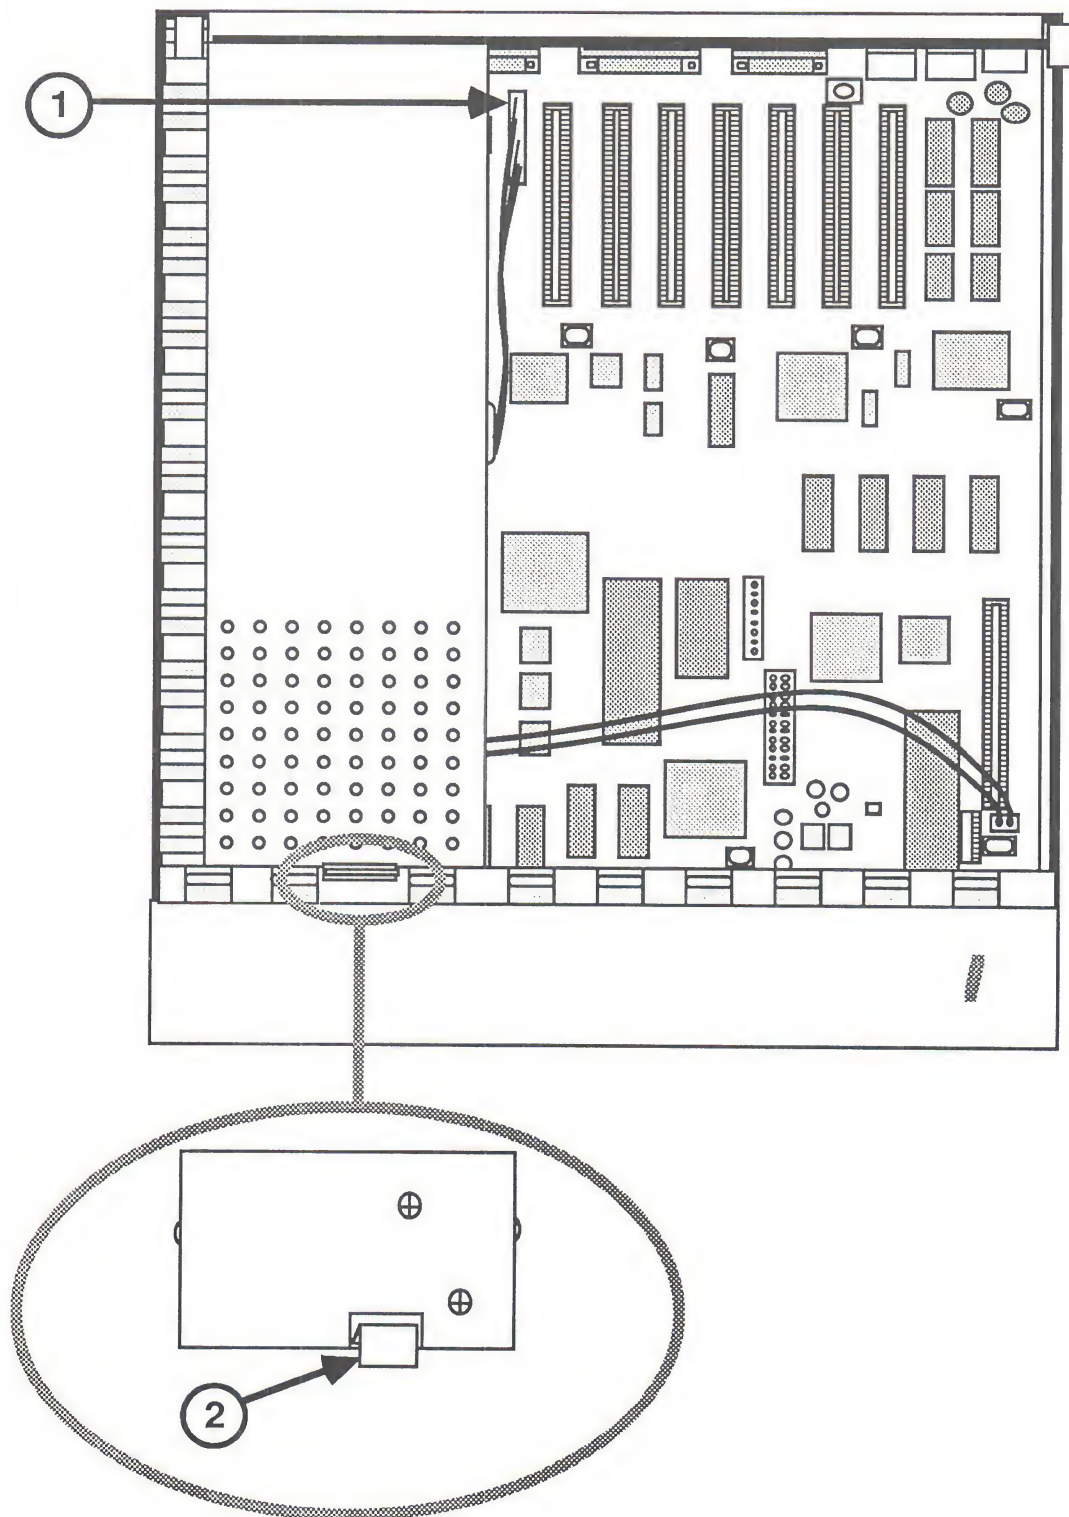

FIGURE 2
- 6.5 Base Assembly (Figure 2)
2. Locate and disconnect the power supply cable (see Figure 2, #1).
3. Locate the tab that holds the power supply in place (see Figure 2, #2).
2. Lower the power supply into position so that the tab in the front clicks into place (see Figure 2, #2).
3. Reconnect the power supply cable (see Figure 2, #1).